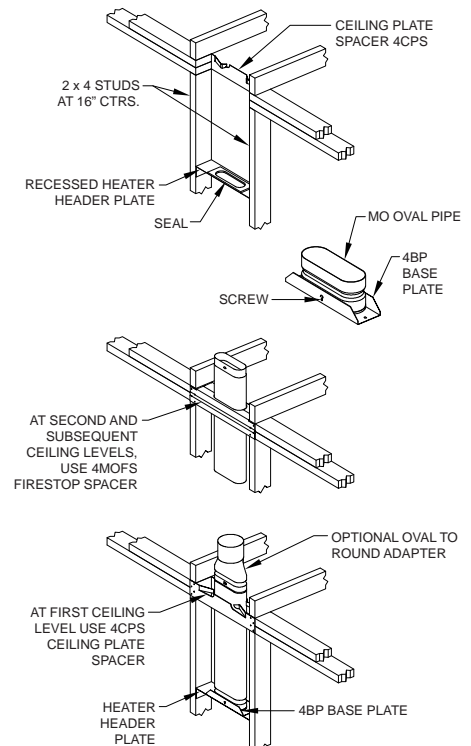

FIGURE 7
- If the installation is with a recessed heater, the 4MOK installation kit is required. At the top of the recessed heater mounted in the stud wall, the gasket is applied under the base plate from the 4MOK. The base plate is screwed to the heater outlet. The base plate has provisions to allow 4BW vent to snap in place. At the ceiling level, the ceiling plate spacers are mounted to maintain proper clearances to combustibles. At this point the installation is the same as explained earlier (See **FIGURE 7**).